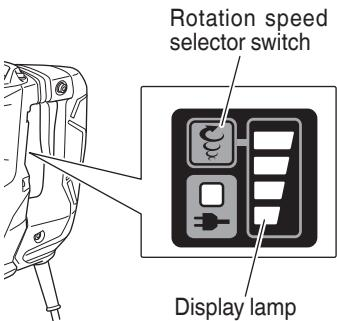

Fig. 4
**8. Regulating the number of rotations and hammering (Fig. 4)**